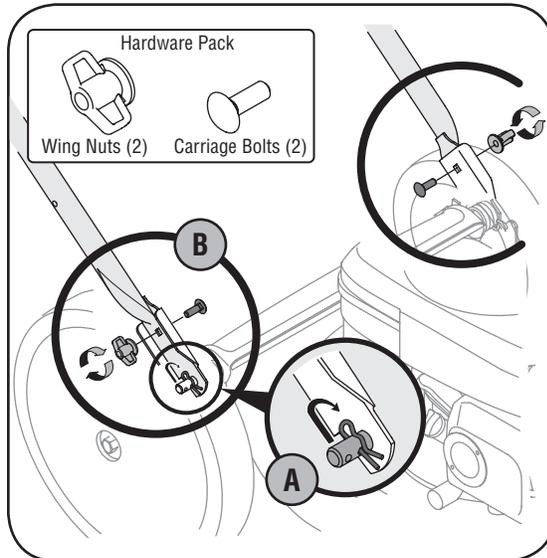

Figure 3-2: Secure lower handle to mounting brackets.
- a. Remove hairpin clip from this hole. Using a pair of pliers, insert hairpin clip into the other hole on the weld pin. Repeat on other side. See Figure 3-2.